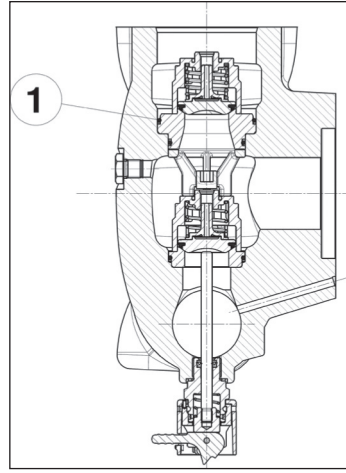

Fig. 111
**Pay special attention to fitting the O-ring shown in pos. ①, Fig. 111.**